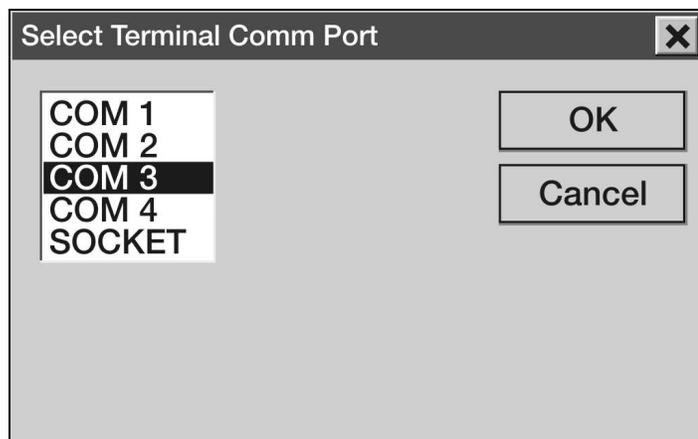

Figure 3-92. Communication Port Window
- a. To start MTS Messenger, double-click the MTS Messenger icon located on the desktop. Users will be prompted to select the COMM port (see Figure 3-92).